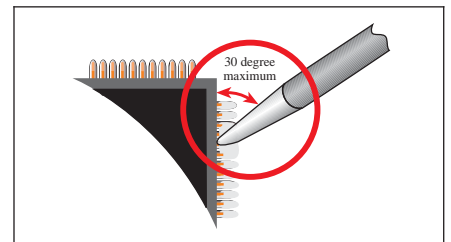

Figure 2 Hold Tip Parallel
5. Hold the tip so the toe of the hoof runs parallel to the row of leads, that is, the side of the tip toward the side of the component. The angle between the side of the tip and the side of the component would ideally be zero for maximized heat transfer, but can be up to 30° depending on operator preference. (See Figure 2.)